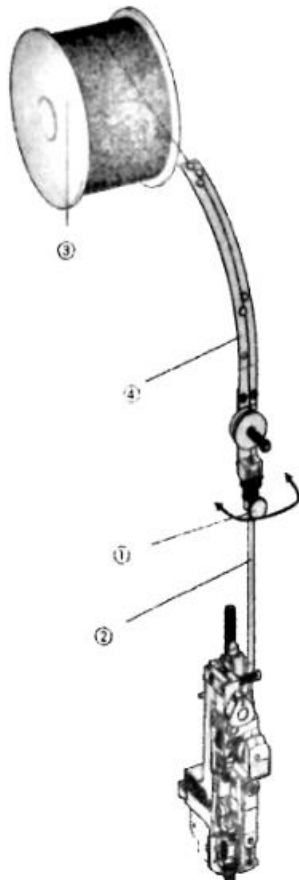

FIG.6
-FIG.6-
- loosen the screw with flange ①, put the wire feed plate ④ in the wire guide pipe ②.
- tighten the screw with the flange to secure the wire feed plate ④.